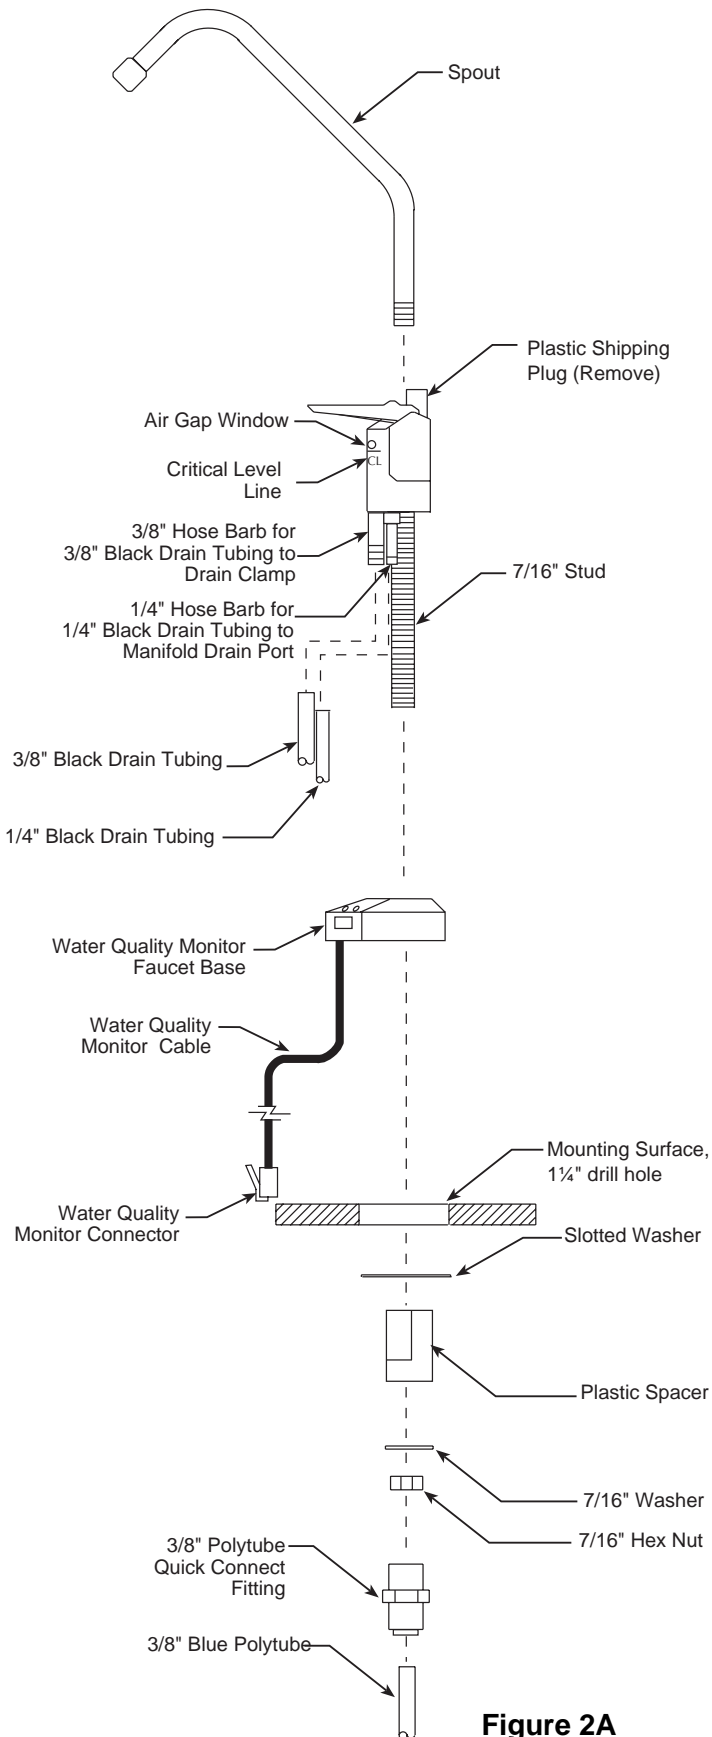

Figure 2A
3. Assemble and attach the Faucet, Water Quality Monitor Faucet Base and tubing (refer to Fig. 2A & 2B, page 9.)
- Slide Water Quality Monitor Faucet Base over $\frac{1}{4}$ " Black Drain Tubing, $\frac{3}{8}$ " Black Drain Tubing and $\frac{7}{16}$ " stud screw and seat with Amber/Green LED's aligned under Air Gap Window on Dispensing Faucet. (See Figure 2A, page 9.)
- Check the Air Gap Window on the Dispensing Faucet to be sure that the drain water is flowing. (Refer to Figure 2A, page 9.) The R.O. System is now making water.